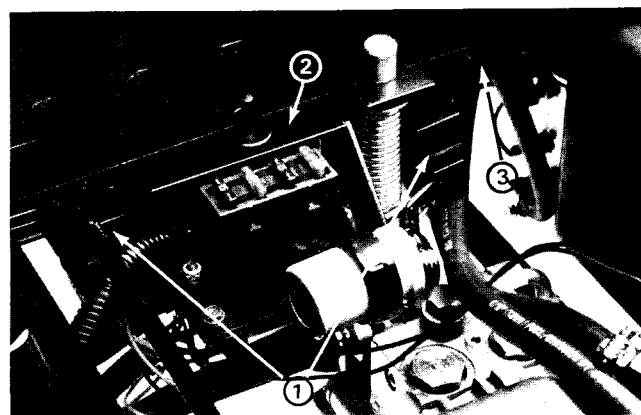

Figure 62
6. Disconnect the wiring connectors from the two (2) electrical relays (Fig. 62). Remove the seat switch bracket from the seat frame. Leave all wires connected. Remove the cap screw and lock nut securing the fuel hose and wiring harness clamp to the rear of the seat frame.